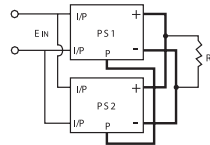

Figure 7: Wiring of S.P.S. with built-in parallel function
- a) S.P.S. with built-in parallel function: Connecting "P" terminals together such as the PSP models ("G" terminal also need to be connected together). Input/output should be connected in parallel first and then connect to the AC source/load just as figure 7 (some S.P.S. need a minimum load after paralleling).